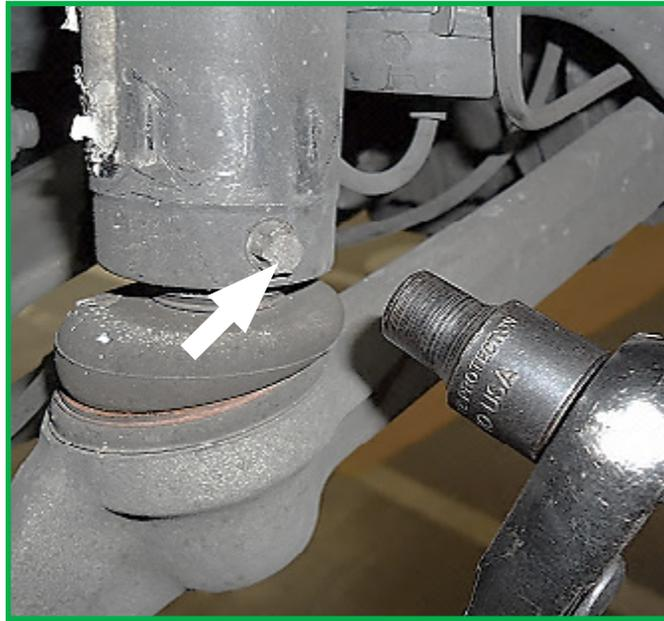

FIGURE 12
7. Locate and loosen lower mount set screws. (Figure 12)